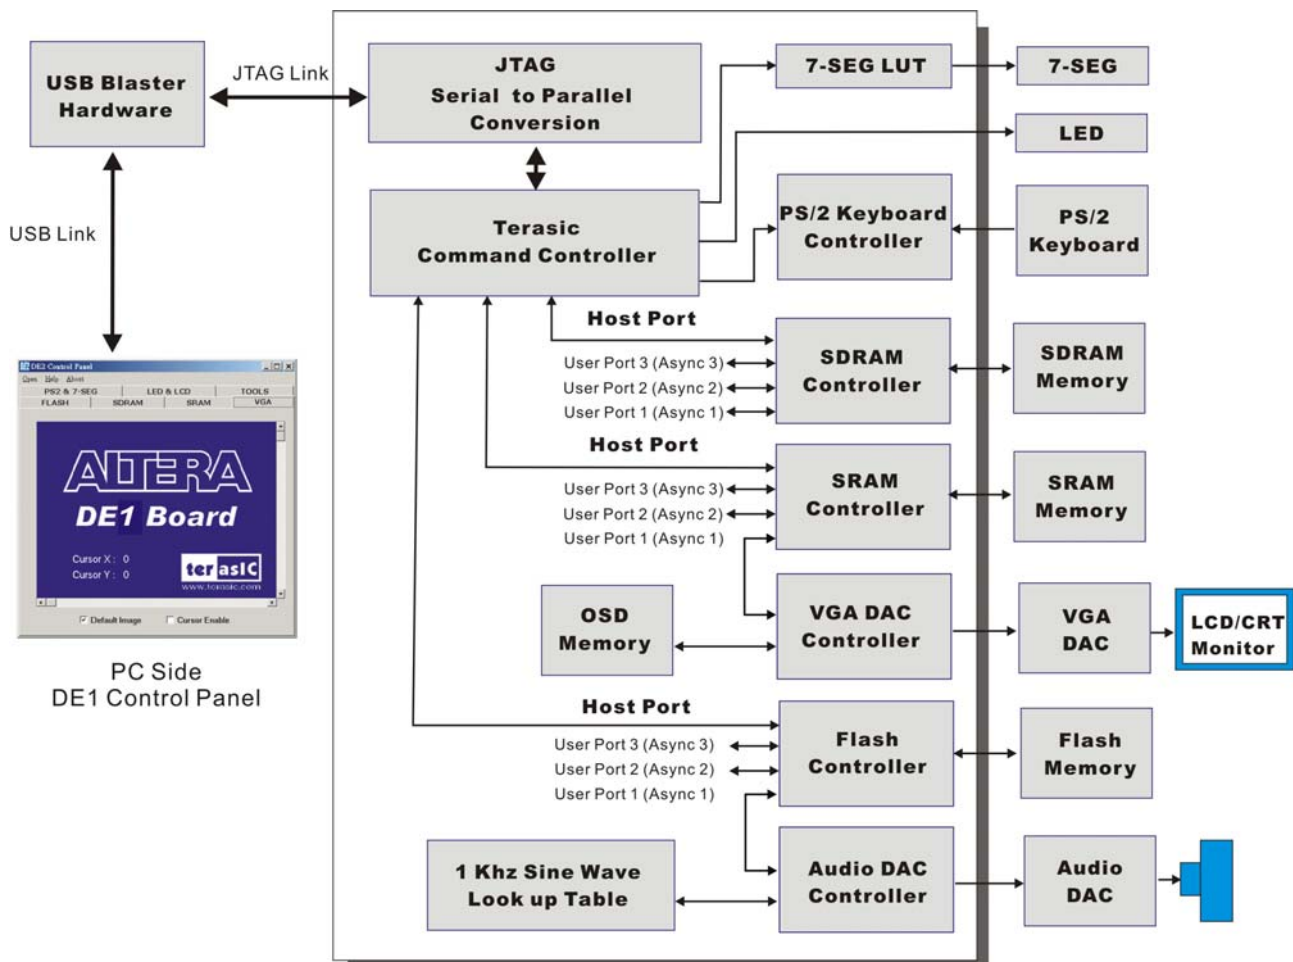

Figure 3.7. The DE1 Control Panel block diagram.
To run the Control Panel, the user must first set it up as explained in Section 3.1. Figure 3.7 depicts the structure of the Control Panel. Each input/output device is controlled by a controller instantiated in the FPGA chip. The communication with the PC is done via the USB Blaster link. A Command Controller circuit interprets the commands received from the PC and performs the appropriate actions. The SDRAM, SRAM, and Flash Memory controllers have three user-selectable asynchronous ports in addition to the Host port that provides a link with the Command Controller. The connection between the VGA DAC Controller and the FPGA memory allows displaying of the default image shown on the left side of the figure, which is stored in an M4K block in the Cyclone II chip. The connection between the Audio DAC Controller and a lookup table in the FPGA is used to produce a test audio signal of 1 kHz.
3. Select the Asynchronous 1 port for the Flash Multiplexer and then click on the **Configure** button to activate the port. You need to click the Configure button to enable the connection from the Flash Memory to the Asynchronous Port 1 of the Flash Controller (indicated in Figure 3.7).
6. Note that the Asynchronous Port 1 is connected to the Audio DAC part, as shown in Figure 3.7. Once you selected Asynchronous Port 1 and clicked the Configure button, the Audio DAC Controller will communicate with the Flash memory directly. In our example, the *AUDIO\_DAC* Verilog module defines a circuit that reads the contents of the Flash memory and sends it to the external audio chip.